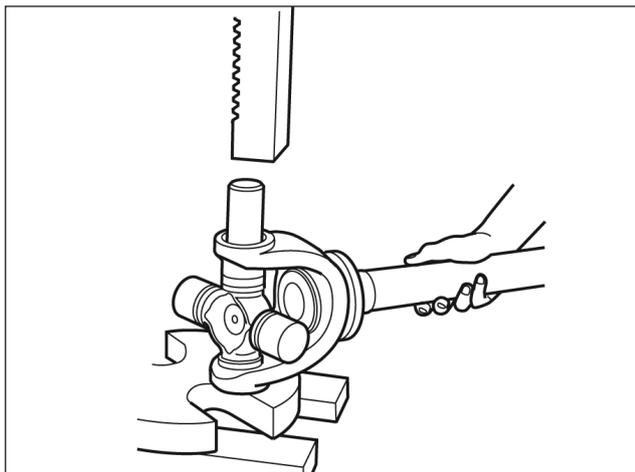

Fig. 4.16
2. Press the first round bushing into the yoke slightly past the snap ring groove. Check that the bushing is aligned with the universal joint trunnion. Fig. 4.16